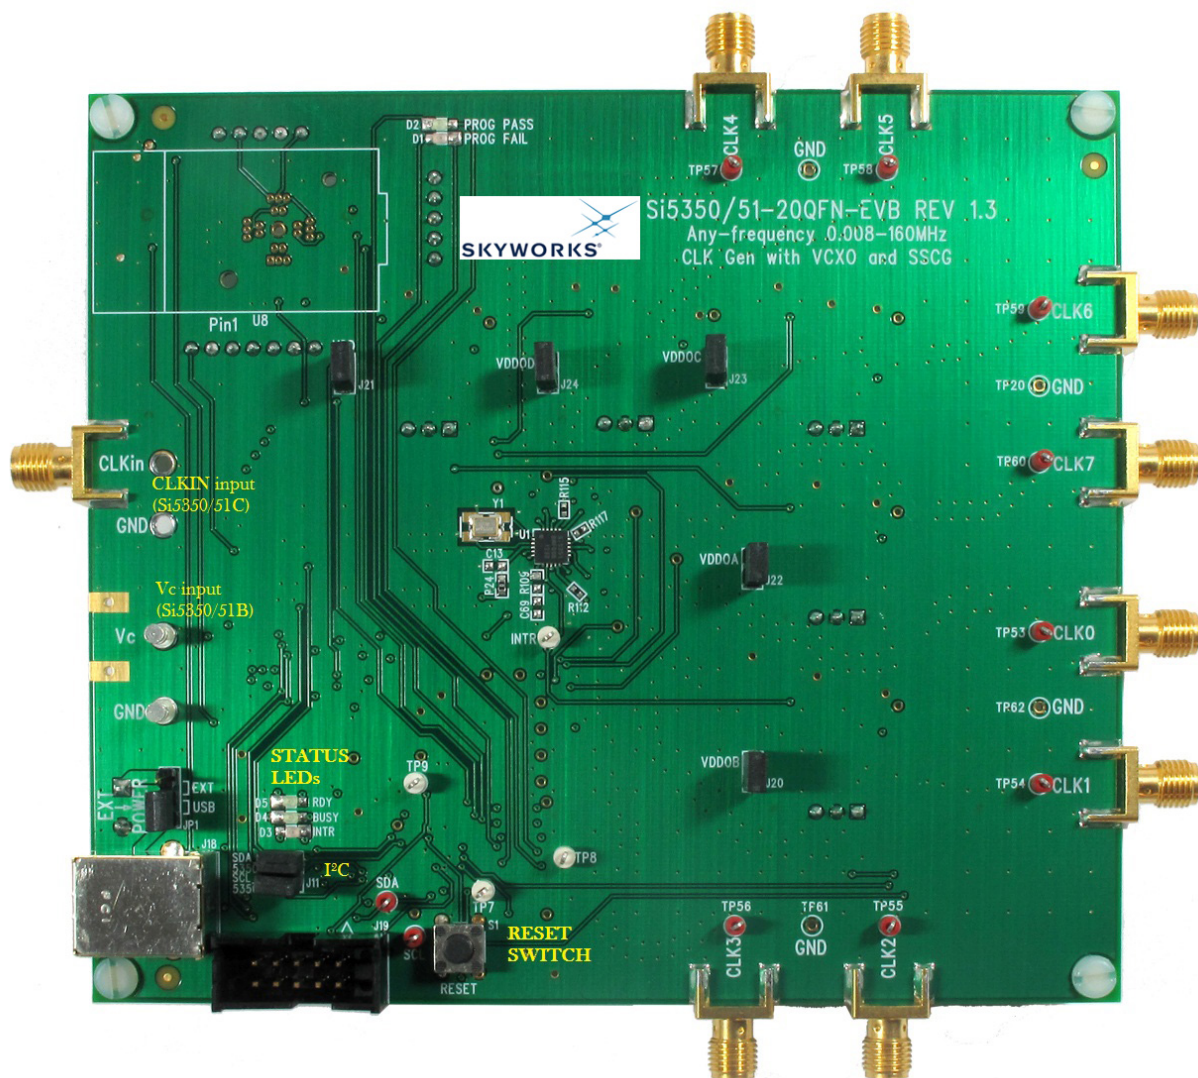

Figure 1. EVB Features (Front)
Figures 1 and 2 highlight the main features of the EVB. The onboard MCU is responsible for programming the Si535x timing IC, measuring the device's current consumption reported in the ClockBuilder™ Pro EVB GUI, managing power, and controlling status LEDs. VDD and VDDO jumpers allow the option of choosing between 1.8 (VDDO only), 2.5, and 3.3 V or powering the device with external supplies (see Section “2. Jumpers” for details). I²C jumpers allow the Si535x to be disconnected from the I²C bus, allowing external control from another I²C master.
- **EXT POWER**—Allows user to select between 5 V USB supply and 5 V external supply on J17. See Figure 1 for jumper locations.